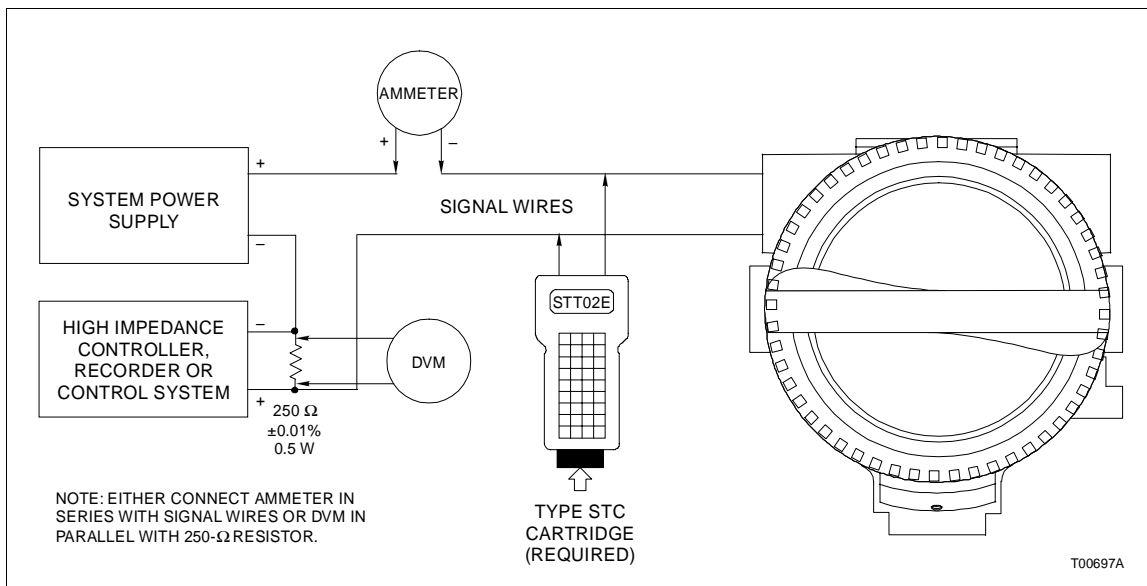

Figure C3-1. D/A Adjustment Setup
Either connect the DMM, set to measure DC milliamps, in series with the four to 20-milliamp current loop, or make a parallel connection across the precision 250-ohm resistor as shown in Figure C3-1, with the DMM set to measure DC volts. With the latter setup, the four to 20-milliamp output corresponds to one to five volts.
1. These notes only apply when measuring VDC across the 250-ohm resistor as shown in Figure C3-1.